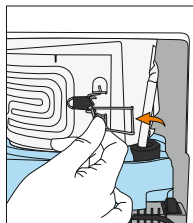

Figure 36
5. Approach the cooler from the rear and open the latch provided on the evaporator band (Figure 36).